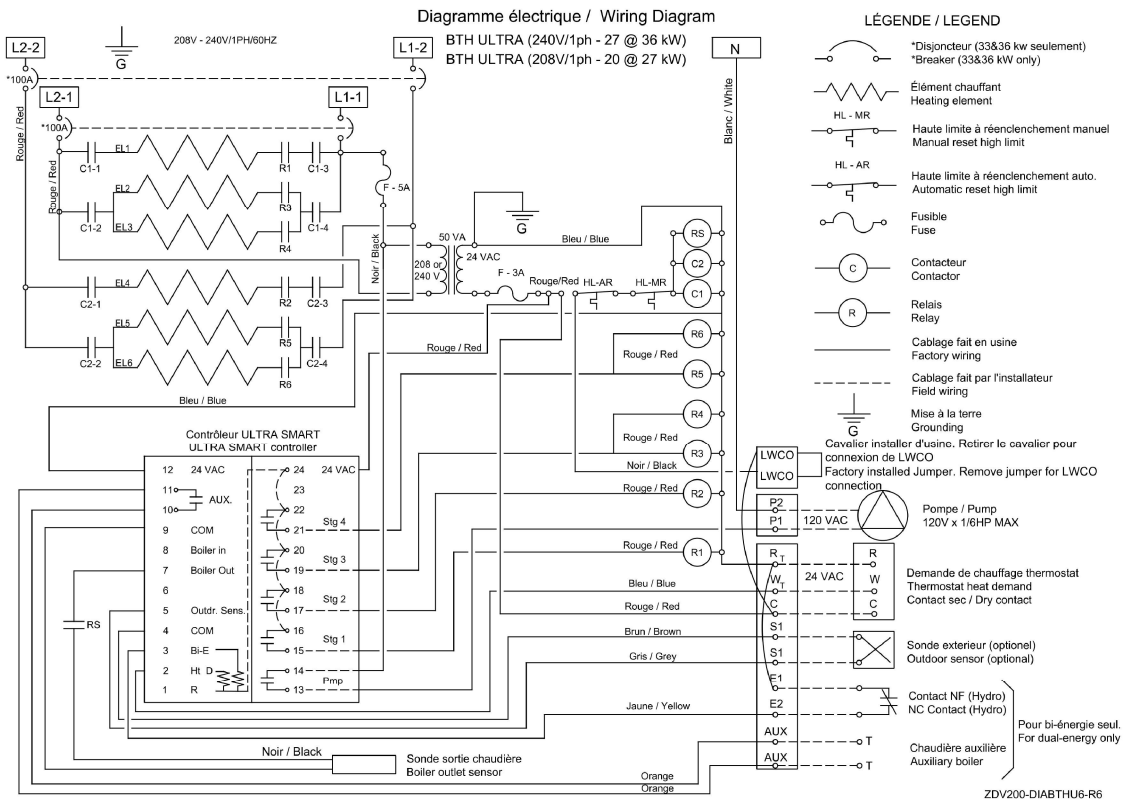

Figure 17 : Wiring diagram (27-36 KW)
- Open the front access panel to the boiler electric compartment. Remove the screw at the bottom of the controller, raise the upper section of the controller. You will see a switch at the back of the controller having two positions “ELECT” and “Bi-Energ”. Position the switch at “Bi-Energ” See fig.17.